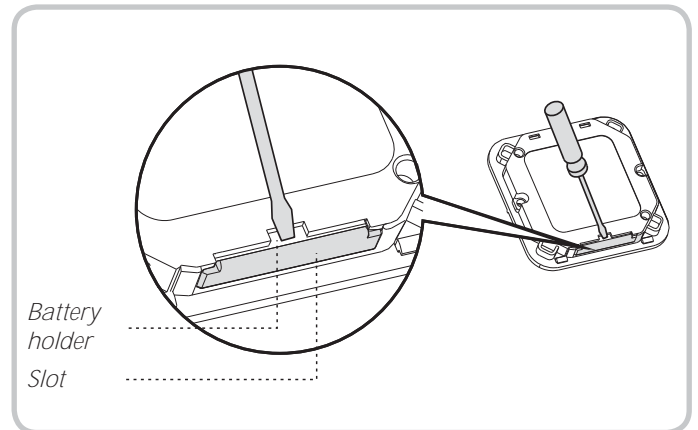

Fig. 30
- Pull out the battery holder with a screwdriver (see Fig. 30).